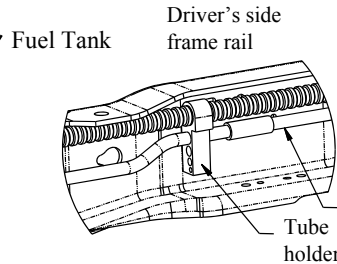
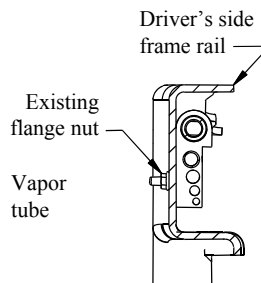

Figure 2b
Figure 2c
- 2b. **On Gas Engine Vehicles Only.** The vapor tube running along the inside of the driver's side frame rail must be relocated prior to installing the driver's side bracket (see Figure 2b). Remove the flange nut from the outside of the frame and keep for later use (see Figure 2c). Rotate the tubes up and out of the way. Install the L-bracket with 1/4" hardware, as shown in Figure 2d. Tighten the L-bracket to the frame, but leave the tube holder loose to aid bracket installation. The tube holder will be tightened onto the L-bracket in Step 12.